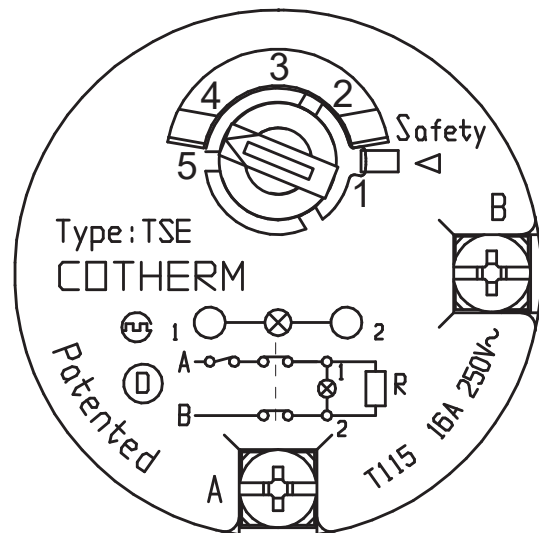

Figure 6-1: TSE single pole thermostat plan view details
3. The safety cut-out reset pin is positioned to the right-hand side of the control knob (indicated by a triangle with the words 'safety' above). Refer to Figure 6-1.